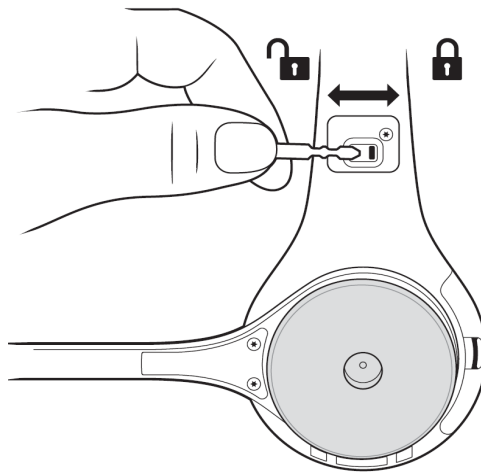

Figure 9.
1. On the opposite side of the Headset Carrier, ensure that the Control Pod Locking Mechanism is in the unlocked position by sliding it all the way to the left. A small flat-head screwdriver or other similar tool can be used to slide the locking mechanism if needed. See Figure 9 below.
4. Slide locking mechanism on the opposite side of the Carrier to the locked position. See Figure 9.